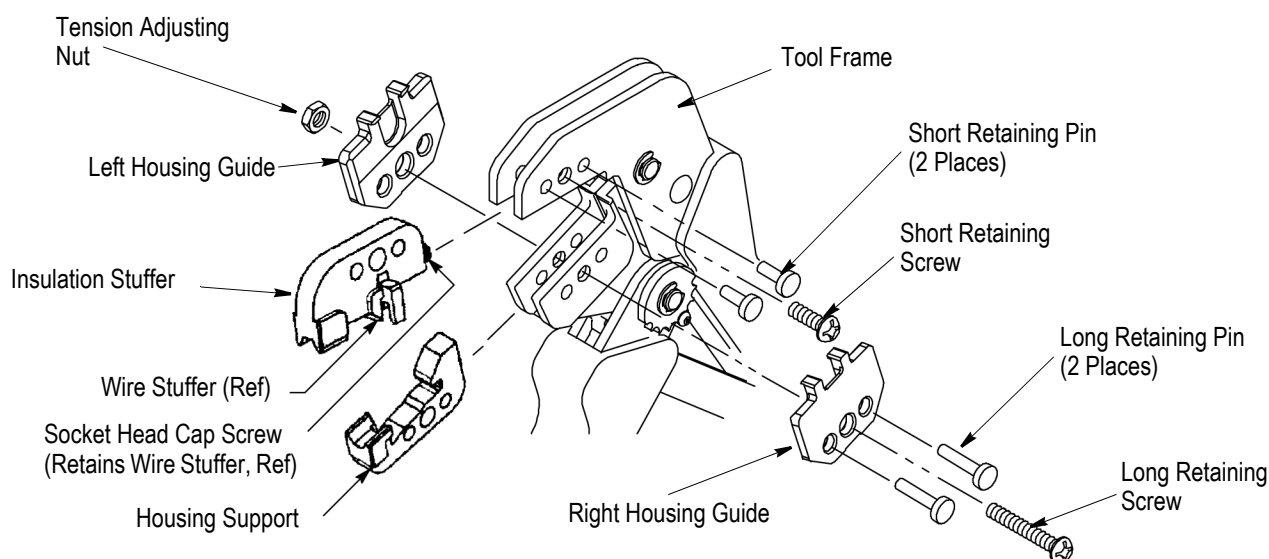

Figure 2
2. Orient the insulation stuffer as shown in Figure 2, and insert it into the stationary jaw of the tool frame. Align the holes with the associated holes in the tool frame. Insert the short retaining pins and short retaining screw into the holes in the tool frame. Tighten the screw.
3. Orient the housing support as shown in Figure 2, and insert it into the moving jaw of the tool frame. Align the holes with the associated holes in the tool frame. Orient the right housing guide as shown, and mount it onto the tool frame using the long retaining pins. Insert the long retaining screw through the hole in the right housing guide. Tighten the screw.
4. Refer to Figure 2. Orient the left housing guide as shown, and secure it onto the tool frame using the tension adjusting nut. Tighten the tension adjusting nut using an assembled modular plug connector assembly.
1. Install the wire stuffer onto the insulation stuffer using the 4-40 UNC.621 in. socket head cap screw included with the die assembly. Refer to Figure 2.